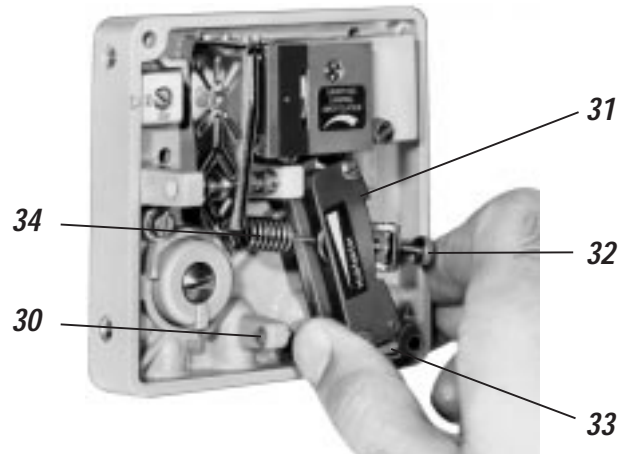

Fig. 31: Pretension of the range spring
- Loosen the A/F 10 screw of the feedback lever and turn the stroke factor lever **31** away from the stop screw **30**. This applies pretension to the range spring **34** (see Fig. 31). In this position retighten the screw of the feedback lever.